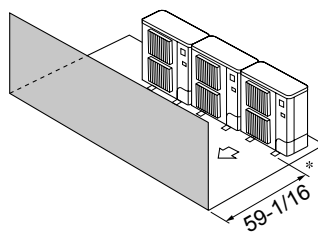

Fig. 2-14
- ③ Obstacles at front only (Fig. 2-14)